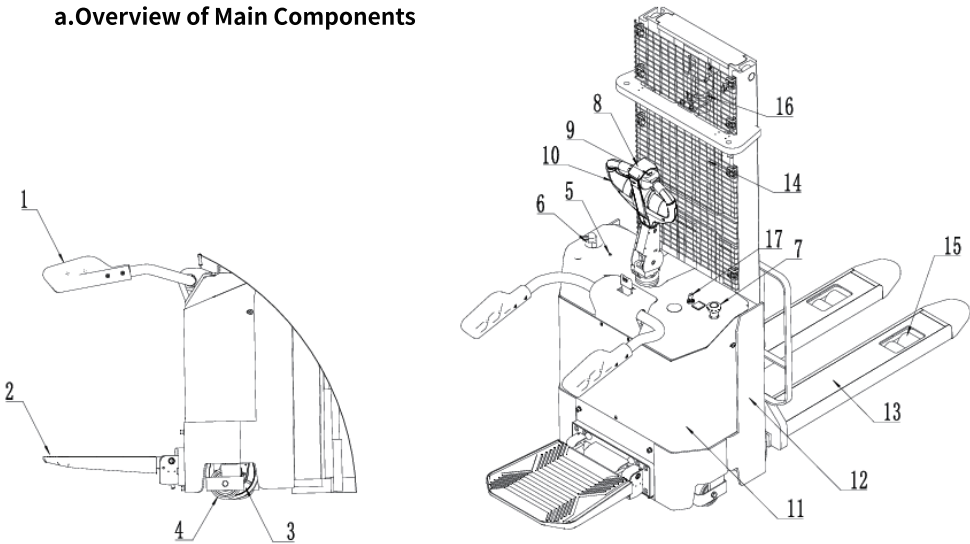

Figure.1:Overview of Main Components
The stacker is equipped with an emergency stop switch 7 (Figure 1), which can cut off all lifting, lowering and travelling functions and deactivate the electromagnetic brake. After checking the controller functions, pull up the switch to resume operation of the stacker. Before operation, insert the key 17 (Figure 1) and turn it clockwise. When the stacker is not in use, turn the key counterclockwise and remove it to prevent unauthorized operation. The stacker is fitted with a belly safety switch 8 (Figure 1). When the truck moves toward the operator, pressing the belly switch within the operating range of the handle will make the truck travel away from the operator. Always comply with the instructions shown on warning labels. Replace any damaged or missing labels in a timely manner.
- Do not use the truck without the protective mesh guard installed (Item 14, Figure 1).